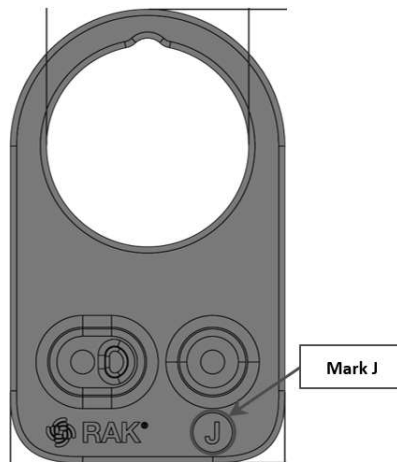

Figure 41: Mount accessory marked with the letter J
1. For hook loop mount, use one (1) piece of mount accessory with an indicator marked with the letter **J**, as shown in **Figure 41**.